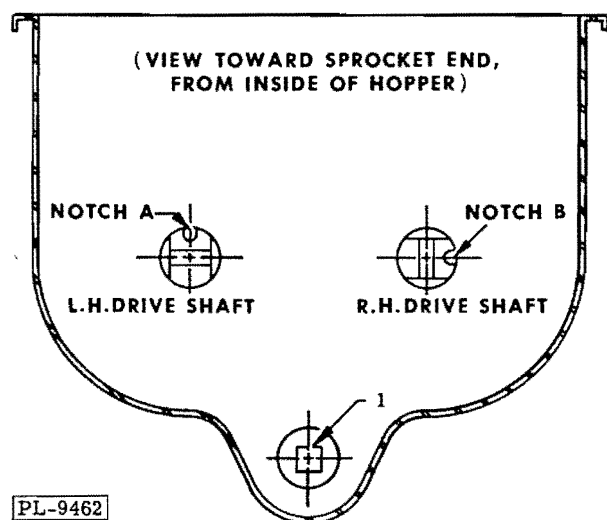

Fig. 4
The hopper conveyor screw may be withdrawn from the hopper after the feed bowl is removed. A chain driven square drive shaft (1, Fig. 4) drives the conveyor screw. This shaft is supported by two ball bearings and sealed from the hopper by two seals.
L.H. drive shaft notch (A, Fig. 4) at the vertical top and the R.H. drive shaft notch (B, Fig. 4) at horizontal right. Check mixing arm clearance by manually rotating assembled arms one complete turn before applying power for the first time.